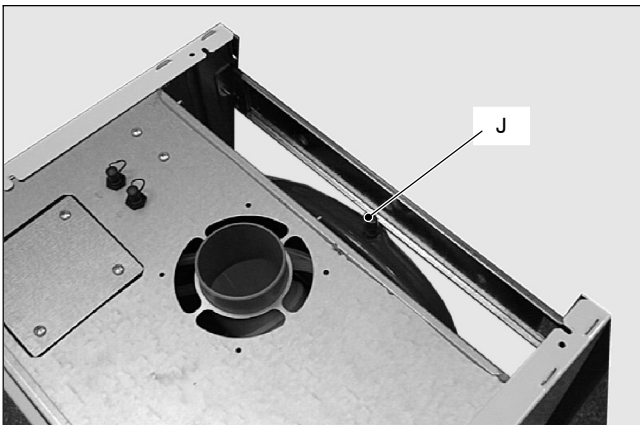

Fig. 6
- 2 Remove the protective cap J (Fig. 6) from the valve on the top of the expansion vessel and connect a suitable air pressure gauge.